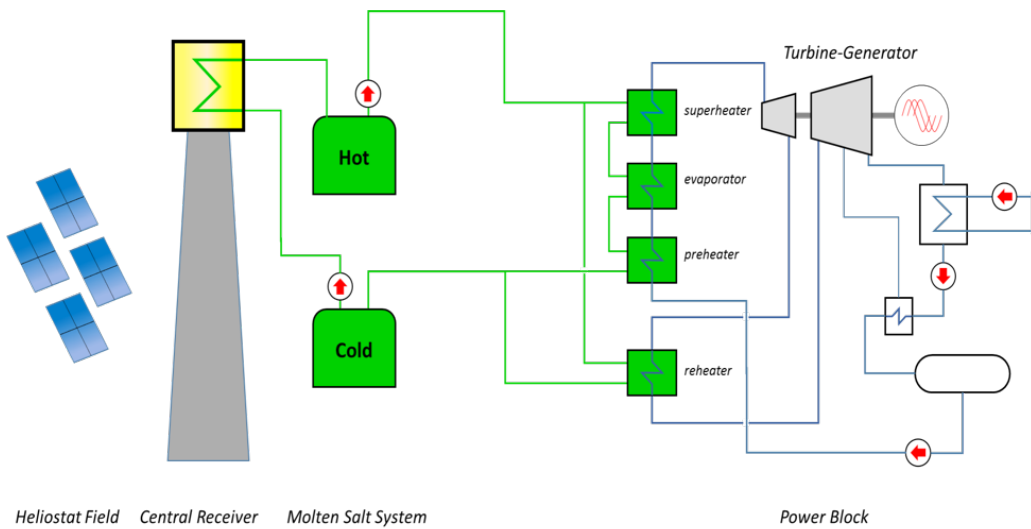

Figure 6: Tower with molten salt as HTF and TES
- Figure 6: Tower with molten salt as HTF and TES 6